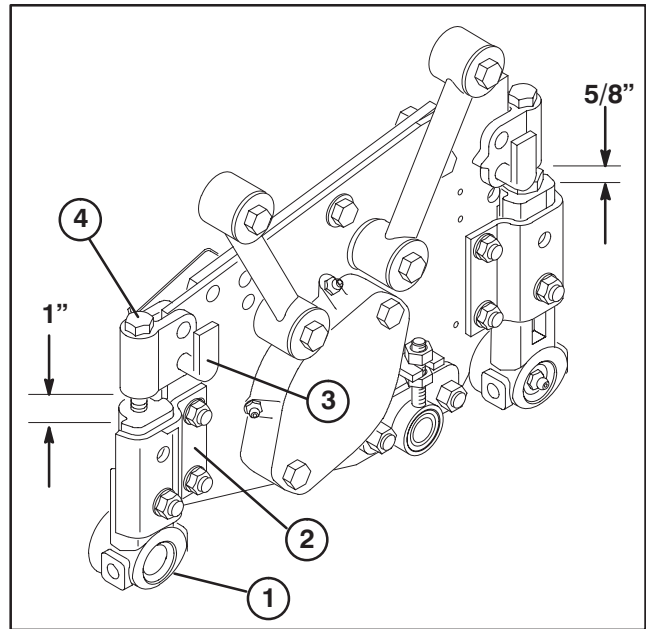

Figure 5
SET HEIGHT OF CUT AND LEVEL REAR ROLLER (Fig. 5)
2. Adjust support capscrew to achieve $1" \pm 1/16$ dimension between Height-of-Cut support and front roller bracket (2 places) (Fig. 5).
3. Adjust support capscrew to achieve $5/8" \pm 1/16$ dimension between Height-of-Cut support and rear roller bracket (2 places) (Fig. 5).